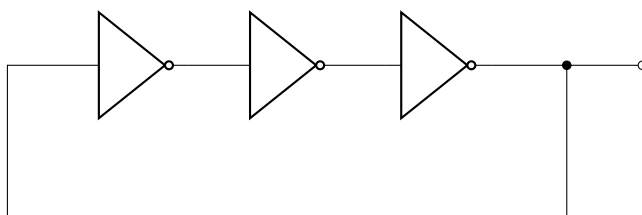

Figure 7: Ring Oscillator Using 3 Inverters
2. One very useful application of an Inverter gate is the Inverter Ring Oscillator shown in Figure 7. You will not need to build a ring oscillator but will need an understanding of this application.